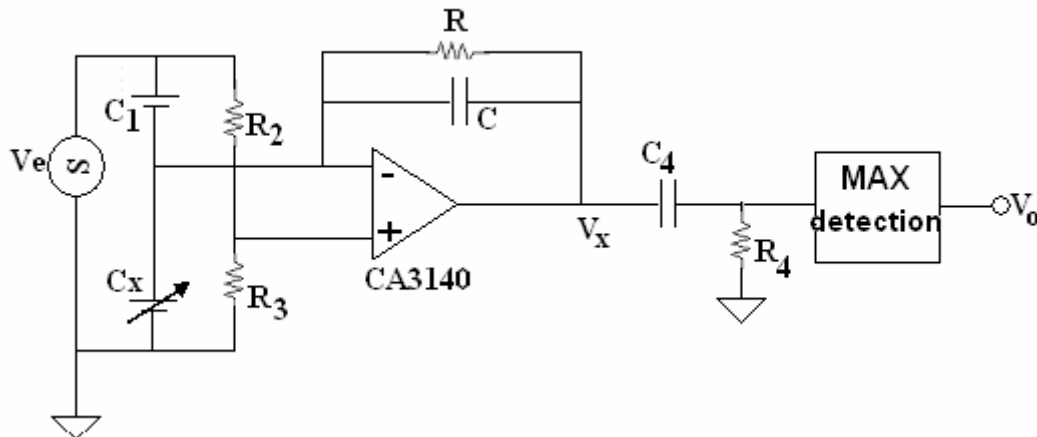

Figure 5
6. The circuit in figure 5 is the signal conditioner for a capacitive level sensor that has  $C_{min} = 41.46\text{PF}$ ,  $C_{max} = 87.07\text{PF}$  & sensitivity  $0.19\text{PF/L}$ . Design the circuit components to obtain a frequency independent voltage that is 0V for the empty tank and 1V for the full tank. [16]